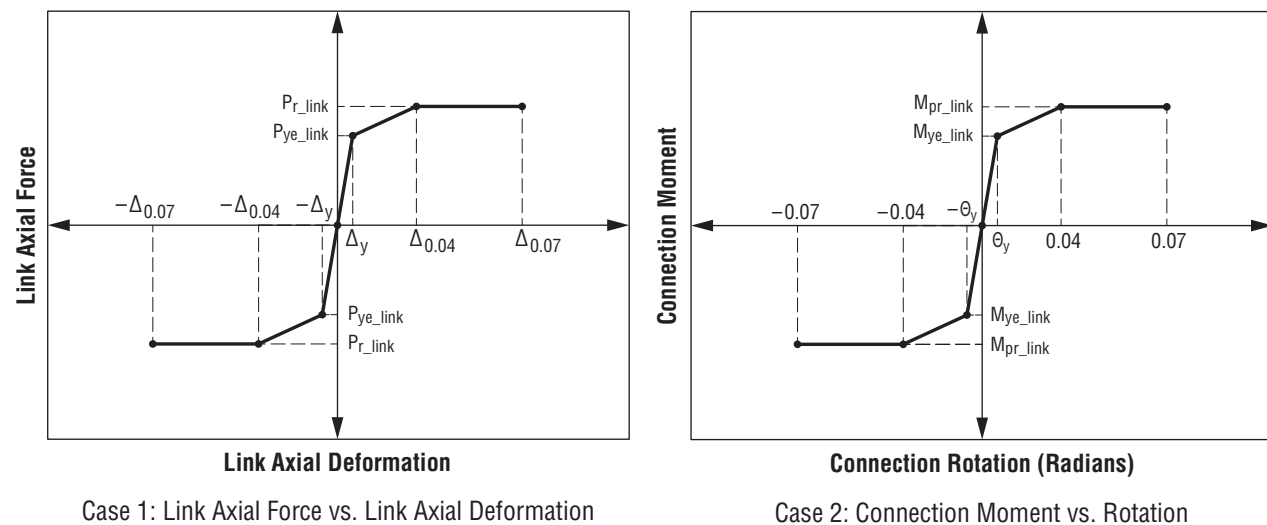

Figure D1.2 — Simpson Strong-Tie® Yield-Link Modeling Parameters Connection Moment
Because the Strong Frame SMF connection is considered a partially restrained (PR) connection, modeling and analysis is more involved than for a traditional moment frame connection. When designing and analyzing PR connections, the strength and stiffness of the connection need to be considered. A detailed step-by-step procedure to calculate the axial Yield-Link® or rotational Yield-Link parameters for Strong-Frame moment connection is documented in Chapter 12 of the AISC 358-16. Once the PR connection is modeled, frame drift can be calculated similar to the traditional fully restrained (FR) connections. For pushover or nonlinear time history analysis, a full nonlinear axial Yield-Link or rotational Yield-Link model is required (see Figure D1.2). Design tools for calculating the Yield-Link parameters can be obtained from Simpson Strong-Tie at strongtie.com.